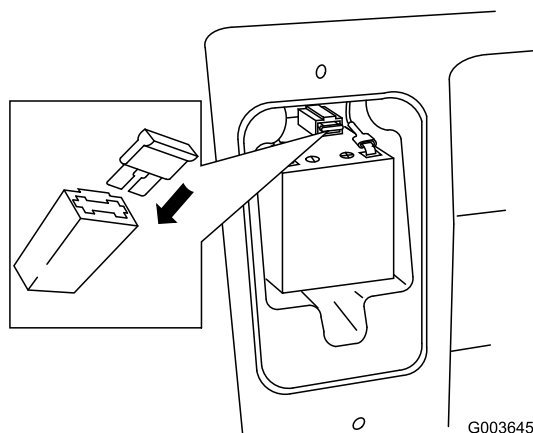

Figure 11
- Install the fuse in the fuse holder (Figure 11).